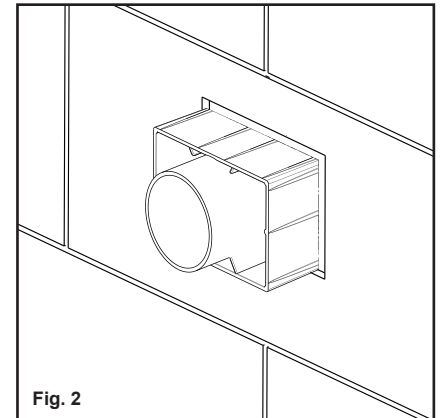

Fig. 2
2. The horizontal flush pipe has been fixed in position at the factory. The tiler can go ahead and tile the wall making sure to tile up to the tiling box, as shown in **Fig. 2**.